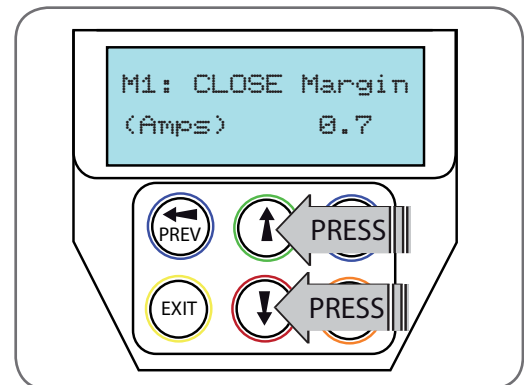

Fig 9.3
- MENU 2.1: CLOSE Margin is displayed (**Fig. 9.3**).